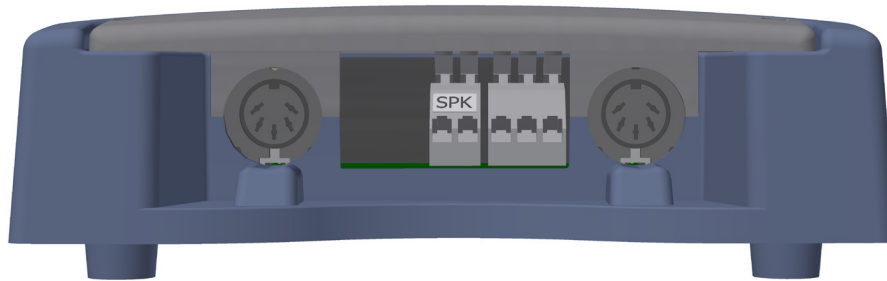

Fig 4: Installation
4. Connect the Transmit (TX) and Receive (RX) leads into the Controller sockets (see Fig 4). Note: either socket can be used as the intelligent software will recognise which detector is plugged in.